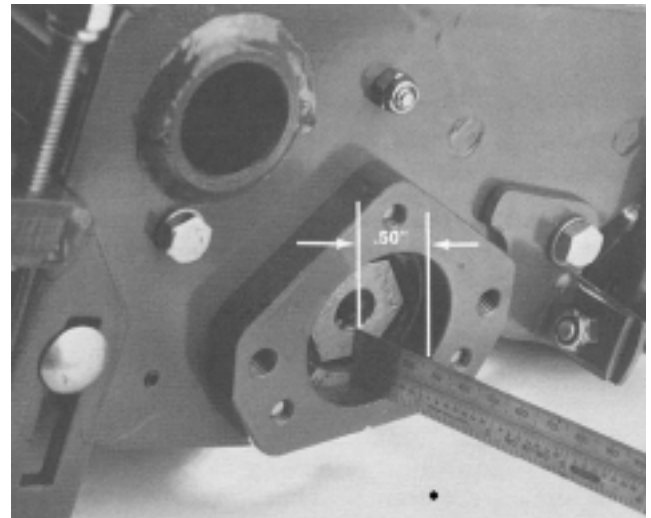

Figure 14
2. After reel shaft assembly has been placed into the frame apply blue loctite #242 unto (6) capscrews before assembly onto (2) outside bearing plates. Install (2) plastic bearing debris seals into opening on side frame before attaching bearing plates to the dethatcher frame.
4. Tighten the (3) capscrews, washers, and lock-washers to 170–220 in–lbs on the driven side of the dethatcher reel assembly with the reel motor acting as pilot for the bearing assembly.
5. Tighten the (3) capscrews, washers, and lock-washers to 170–220 in–lbs on the other end of the reel assembly. Remove reel motor.
6. Position the reel shaft assembly so that the spline nut is .50 inward from the outside surface of the bearing plate (Fig. 14)